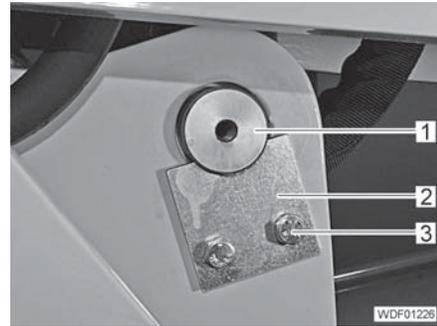

Fig. 201 Bottom end attachment
- Drive in the pin (Fig. 201,1) so that the groove for the locking plate points towards the screws (Fig. 201,3).
- Insert the locking plate (Fig. 201,2).
- Insert and tighten 2 screws (Fig. 201,3) with spring lock washers and disks.